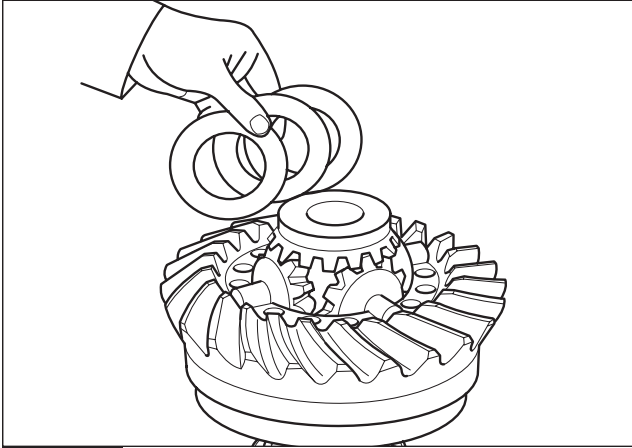

Fig. 2.33
4. Remove and retain the three thrust washers on the side gear. (Fig.2.33)